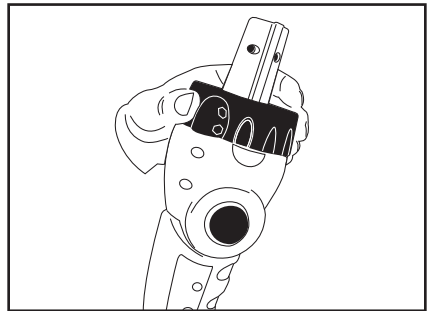

Figure 9
1. Twist the lock ring on the pole to the unlocked position. (see figure 9)